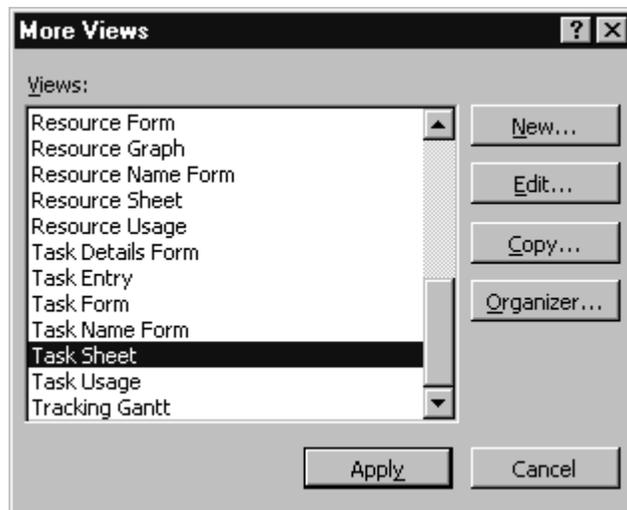

Figure 3
2. On the **View** menu, click on **More Views...** and then select **Task Sheet**. Press **Apply**. (See figure 3).